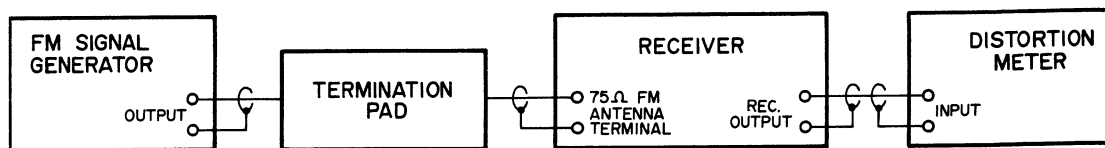

Fig. 9 INSTRUMENT CONNECTIONS
- 1) Connect the various measuring instruments as shown in Fig. 9.